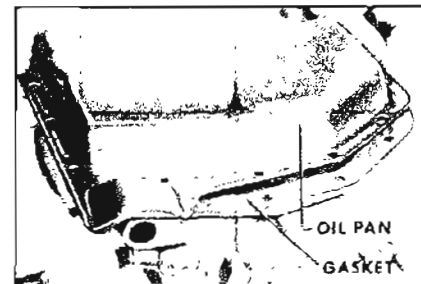

Figure 5-103
4. Remove oil pan and gasket from transmission. See Figure 5-103.